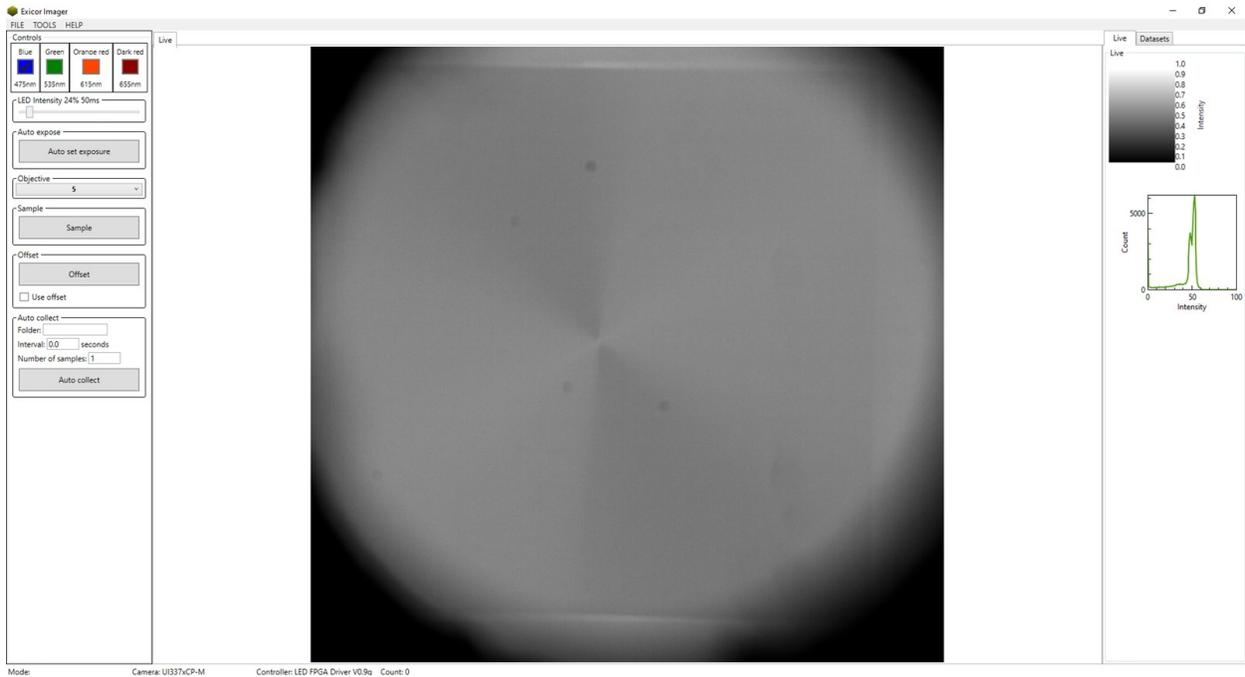

Fig. 3. Focused sample with +1 radial defect (CCN-47, 2.4  $\mu\text{m}$ , 45  $^{\circ}\text{C}$ ) using 5X objective
3. Place the sample on the **Sample Stage** → focus on the sample as shown in Fig. 3 → click the **Auto Set Exposure** button again.